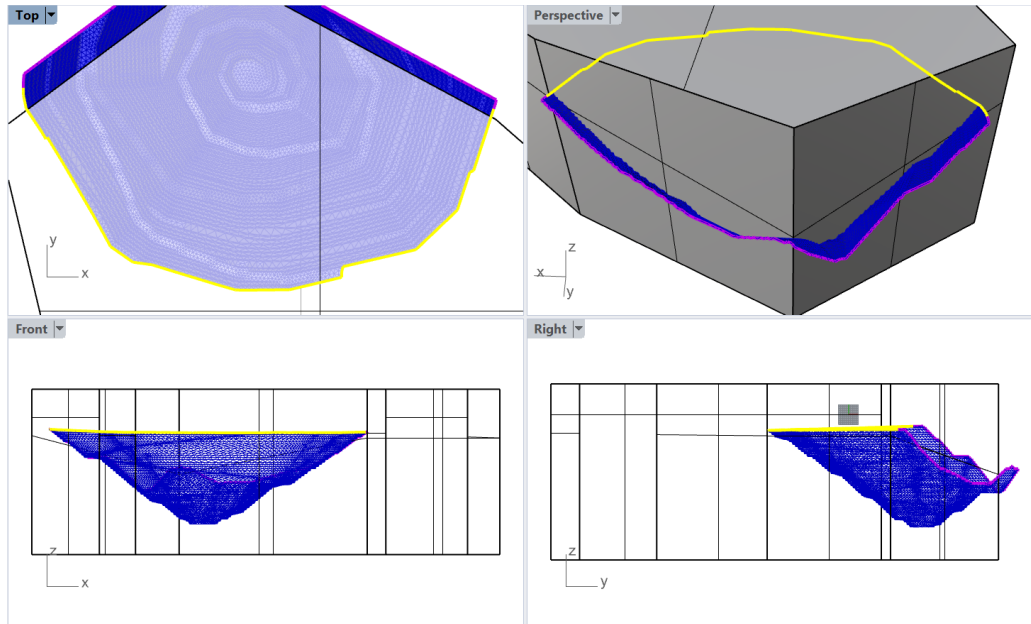
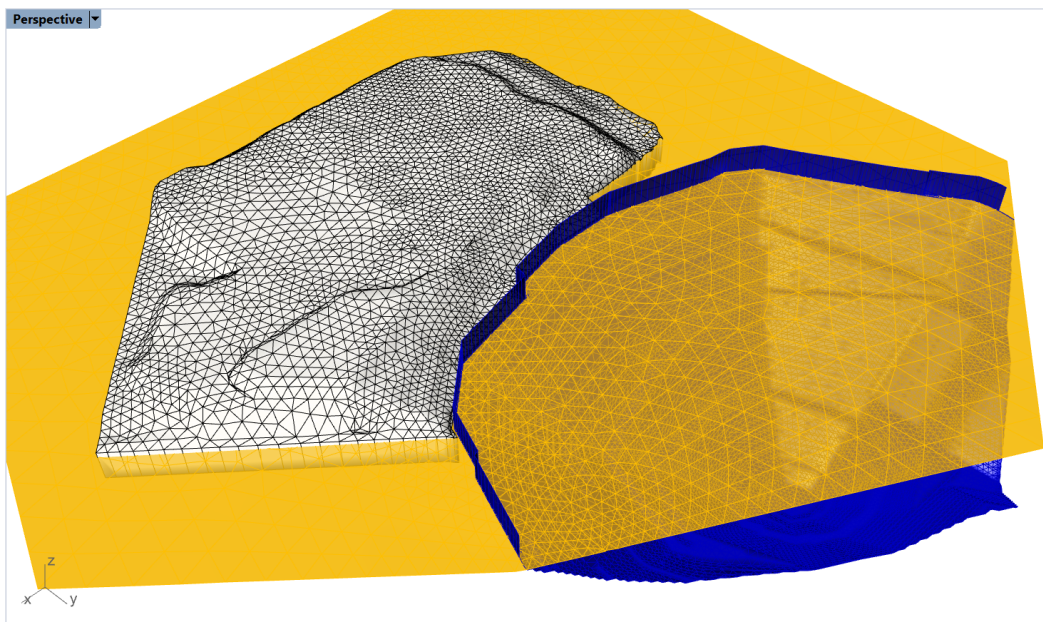

Figure 82: Selection of a piece of the pit boundary for mesh extension.
Figure 83: Extended pit mesh. Note that the mesh is not extended all the way to the corner points of its top boundary.
17. Turn on the “Pit” layer and turn off all others. Remesh the pit mesh with **_GSurf**: *Mode* = *Tri*, *MinEdgeLength* = 10, *MaxEdgeLength* = 40, and *RidgeAngle* = 20°. Restore all four viewports by double-clicking on the current viewport icon (if any viewport is maximized). Turn on layer “Box” and switch *Top* viewport to Ghosted view. Select the pit dump mesh and use the **_GExtend** → *FreeExtend* option. Select only the top part of the pit boundary in such a way that the selection goes a little beyond the box but not to the corner points of the top boundary⁴, as in Figure 82. Like before, move the cursor to *Front* or *Right* viewports and while holding **Shift**, drag the mouse upward, so the extended mesh is sure to intersect the topo mesh (the exact extension length does not matter). The resulting mesh should look similar to Figure 83.